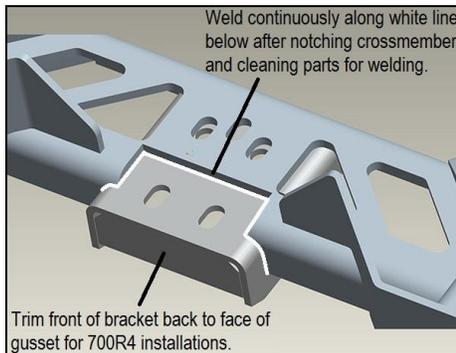
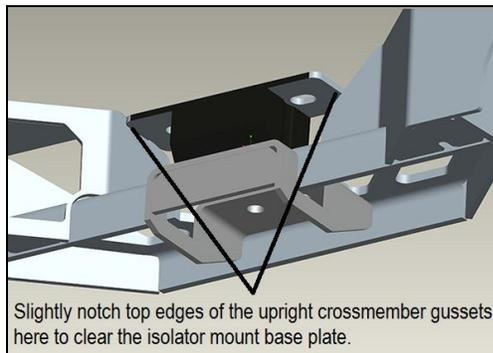

Figure 2
Figure 3
- 3. Attach the bracket to the crossmember placing the supplied bolts and nuts in the holes that pass through both the bracket and crossmember (**Figure 2**).
- 4. If you are using this kit to install a 700R4 transmission, trim the front of the bracket off so that it is even with the front edge of the bracket gusset plate (**Figure 2**) and slightly notch the top edges of the upright crossmember gussets to clear the isolator mount base plate (**Figure 3**). If you are using this kit to install a Powerglide or TH350, leave the bracket length as-is, as you will be attaching the transmission mount to the forward set of holes in the bracket.
- 5. Once notching/clearancing is complete, clean parts and weld them together using either a MIG or TIG welder (**Figure 2**) and spot-paint as desired to match.